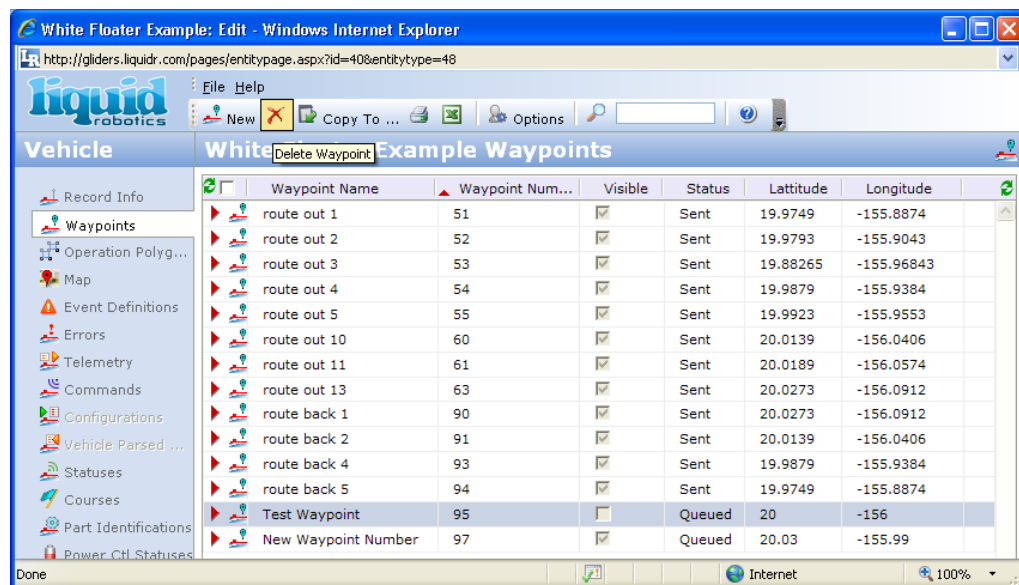

Figure 5-18: Vehicle Waypoints List With Delete Select
- 2) Next, click on the "Waypoints" tab on the left. This should bring up a list of the Waypoints, similar to Figure 5-18.